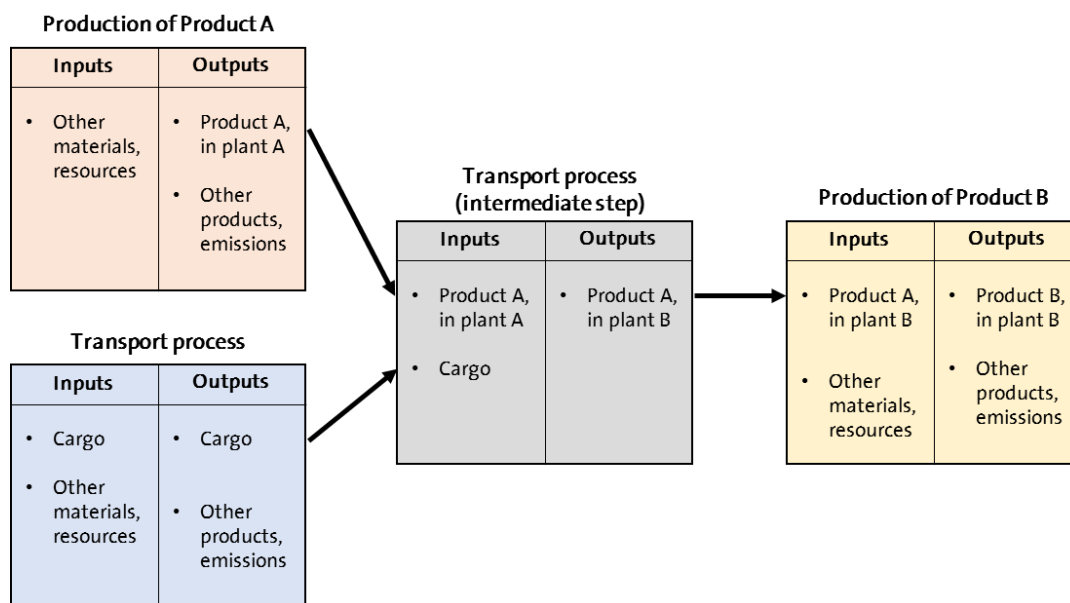

Figure 9. Option 1 suggested for transport modelling using ELCD database in openLCA.
- Option 1: Creation of an auxiliary process for connecting the transport phase, the product to be transported and the transported product consumed by the next phase (Figure 9).
Although most of the processes in the ELCD database are defined as system processes in openLCA, they are actually in many cases “Partly terminated systems”. That means that they are aggregated datasets with at least one product flow, apart from the reference flow, as input or output that needs further modelling (Figure 9). As specified by the ILCD format, these datasets might “include relevant amounts of waste flows for which the waste management has not been modelled yet”.